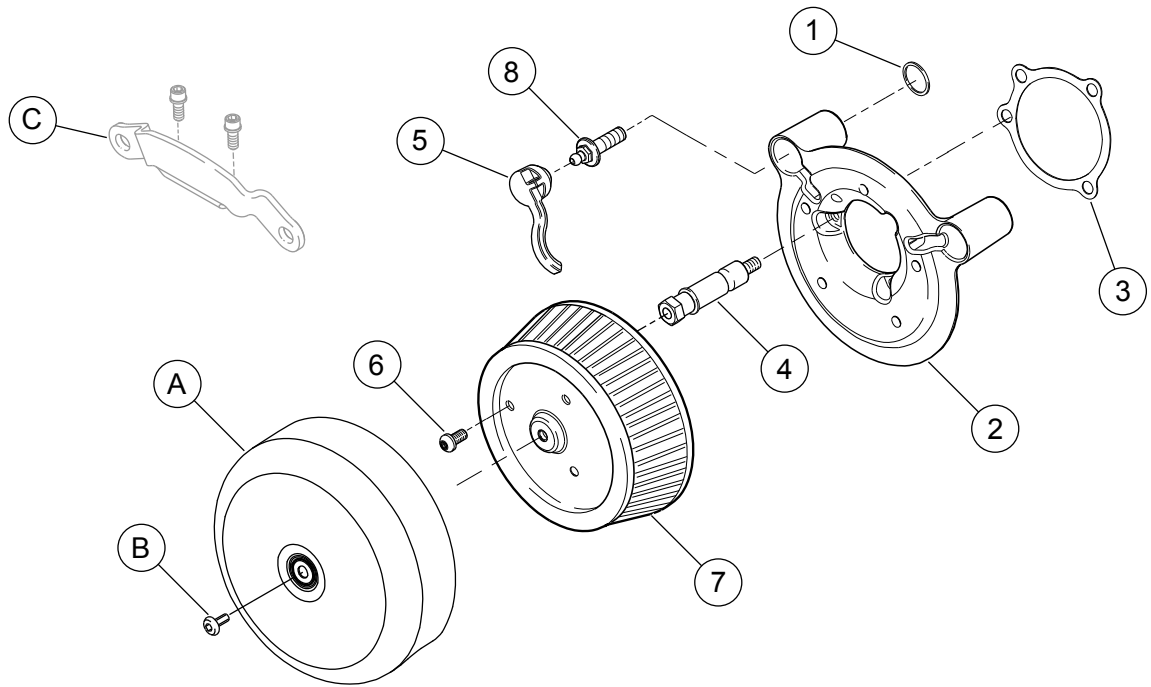

Figure 1. Service Parts: Screamin' Eagle Stage 1 Kit
See Figure 1 and Table 1.
1. See Figure 1. Install two O-rings (1) from kit in grooves around breather screw holes on induction module side of backplate assembly (2).
2. Align the holes of gasket (3) and install on induction module side of backplate.
3. Insert breather screws (8) through the backplate.
5. Thread air cleaner mounting studs (4) all the way through the backplate (2) and gasket (3) until the screw threads are captured in induction module. Do not tighten completely at this time.
6. Alternately tighten two breather screws (8) to 13.6–16.3 N·m (120–144 in-lbs).
7. Press breather plugs (5) into breather screw cavities, aligning tubes with recesses in backplate.
8. Tighten three air cleaner studs (4) to 6.2–6.8 N·m (55–60 in-lbs).
1. See Figure 1. Secure air filter element (7) to air cleaner mounting studs (4) using screws (6). Tighten screws to 6.2–6.8 N·m (55–60 in-lbs).
2. Apply Loctite 243 (blue) to threads of air cleaner cover screw (B). Secure air cleaner cover (A) to air filter element (7) with screw.
1. See Figure 1. Remove air cleaner cover (A) and inspect the filter element (7) every 5000 mi (8000 km), or more often under dusty conditions.